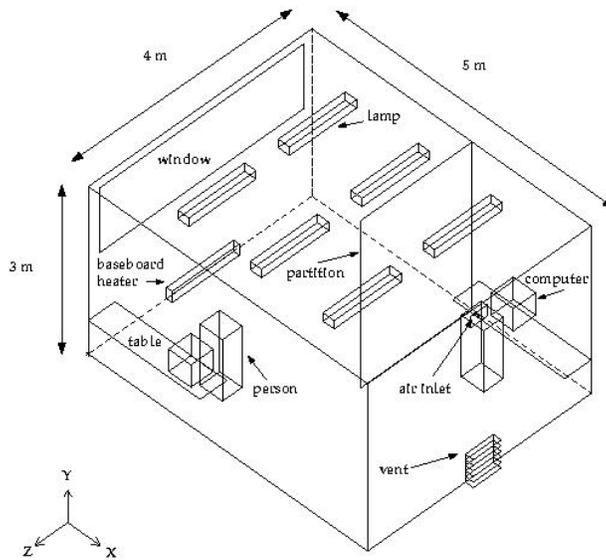

Figure 1.1: Geometry of the Office Ventilation Problem
**Problem Description:** The office is partitioned into two sections, each containing one person working at a computer, as shown in Figure 1.1. The office also includes six fluorescent lights, a baseboard heater, an inlet diffuser, a ventilation return, and a window. Surface temperatures and air velocity profiles are sought in order to determine the overall comfort of the room for its occupants.